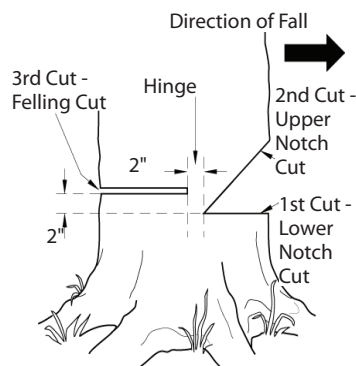

Figure 15 - Felling A Tree
A properly placed felling notch will determine direction tree will fall. Place felling notch on side of tree in direction you want tree to fall (see Figure 15).
1. Make lower notch cut as close to ground as possible. Hold saw so guide bar is horizontal. Cut 1/3 the diameter of tree trunk (see Figure 15). *Note:* Always make this horizontal lower notch cut first. If you make this cut second, tree can pinch chain or guide bar.
Example: If lower notch cut is eight inches deep, start upper notch cut eight inches above it. Cut downward at 45° angle. The upper notch cut should meet end of lower notch cut (see Figure 15).
1. Make felling cut two inches higher than lower notch cut and on opposite side of tree (see Figure 15). Keep felling cut parallel to lower notch cut.
WARNING: Do not cut all the way through tree. Leave about two inches of tree diameter uncut directly behind felling notch (see Figure 15). This uncut portion acts as a hinge. The hinge helps keep tree from twisting and falling in wrong direction.